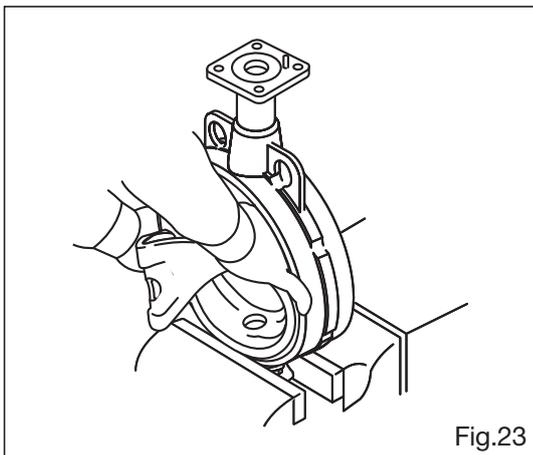

Fig.23
Fix the valve body using a vise and insert the seat ring ③ into the valve body from the bottom while confirming the position of the stem hole. Next, apply force to the upper part of the seat ring ③ to fit the ring into the body with the ring curved concavely. (Fig.23)